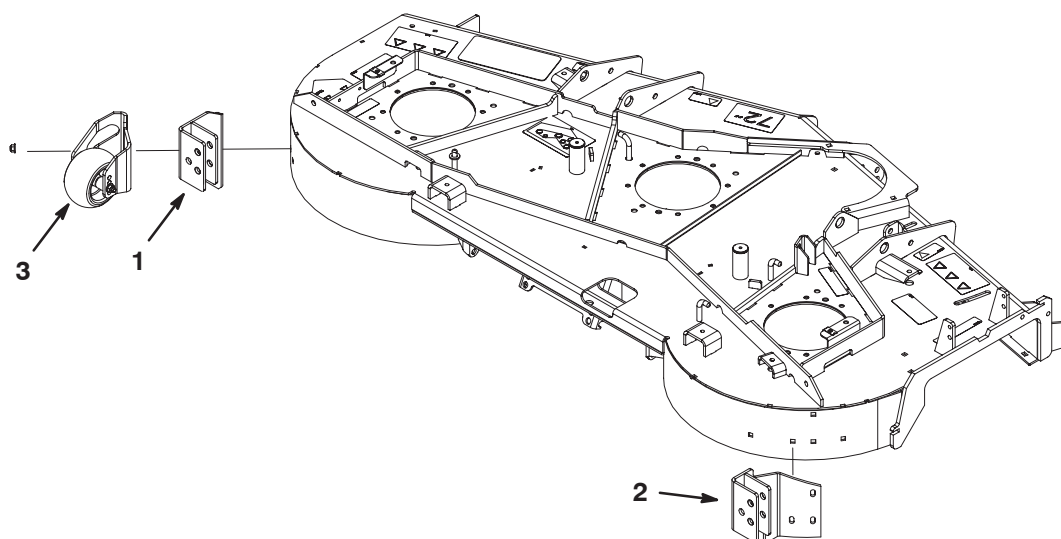

Figure 2
1. Anti-scalp roller (2)
2. Mount the right and left striper bar mounting brackets and the previously removed anti-scalp rollers to the rear of the cutting unit with new carriage screws and nuts (Fig. 2). Note the orientation of the brackets